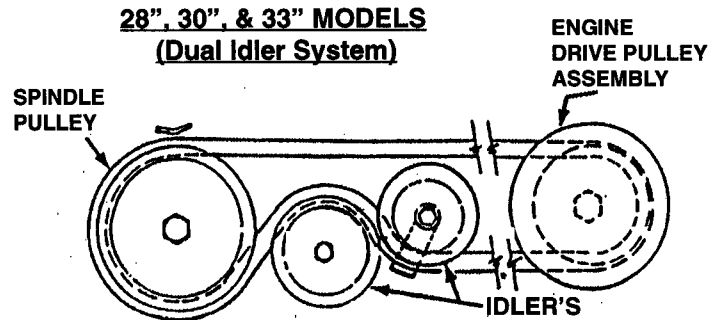

FIGURE 3.5
- a. On 28", 30", and 33" Models, check belt for excessive wear or damage and replace if necessary; there are no adjustments on these models. See Figure 3.5.